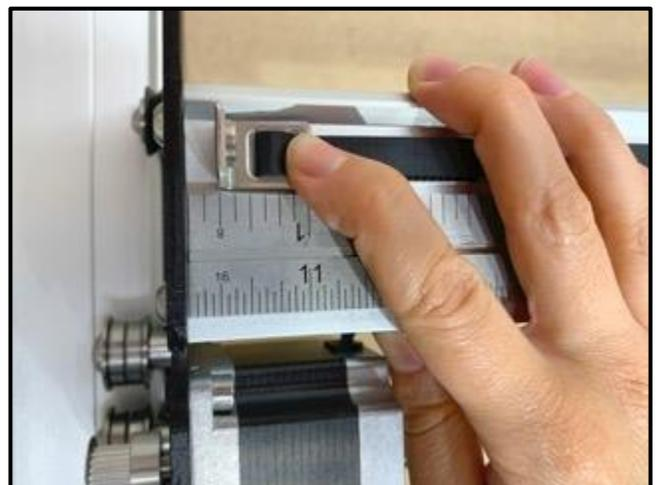

Figure 5-10
9. Adjust the amount of belt you feed through the second belt clip so that when it's laid flat against the X-rail (with the slack removed, but without stretching it), a 1/4-inch gap exists between the belt clip and the Y2-carriage. Ensure the teeth of the bottom few inches of belt interlock with the top. See *Figure 5-10*.